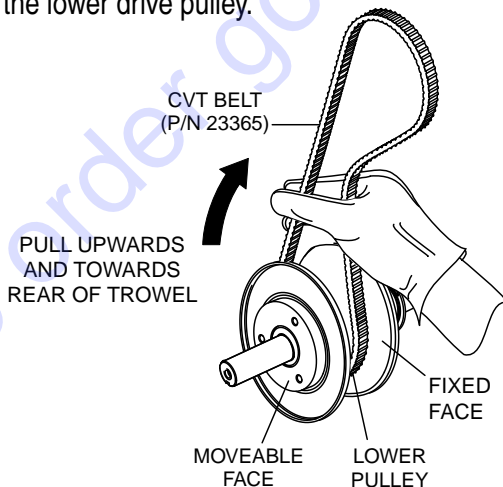

Figure 27. Holding Lower Pulley Open
1. Place new CVT belt over the lower pulley. Squeeze the belt (Figure 27) and pull the belt upwards and towards the rear of the trowel. This will spread open the faces of the lower drive pulley.